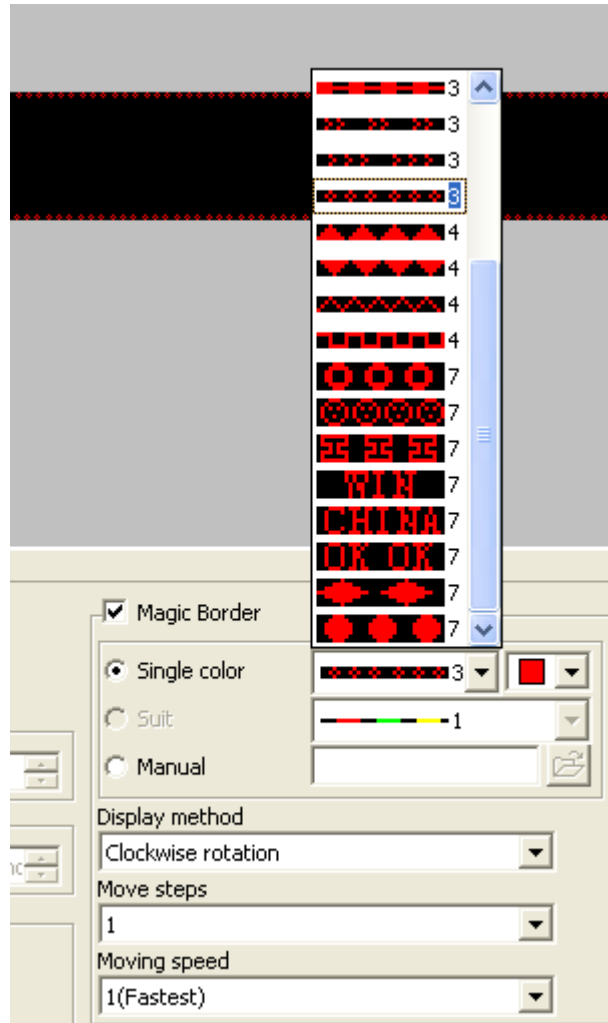

figure 4-3
- 2.Select single color: click the dropdown list to select board type. As shown in figure 4-3.click dropdown list to select boarder color. If the screen type is single color ,only red can be selected ,if the screen type is dual color, red/green/yellow can be selected.